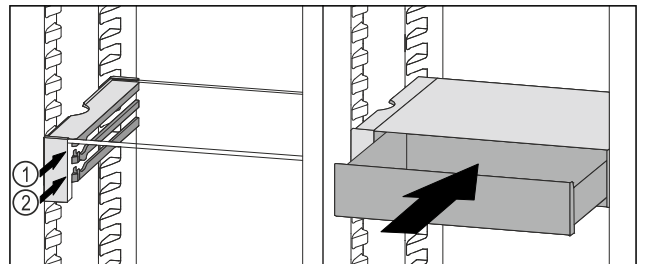

Fig. 103
- Place the VarioSafe drawer behind the stoppers on desired rib Fig. 103 (1) or Fig. 103 (2).